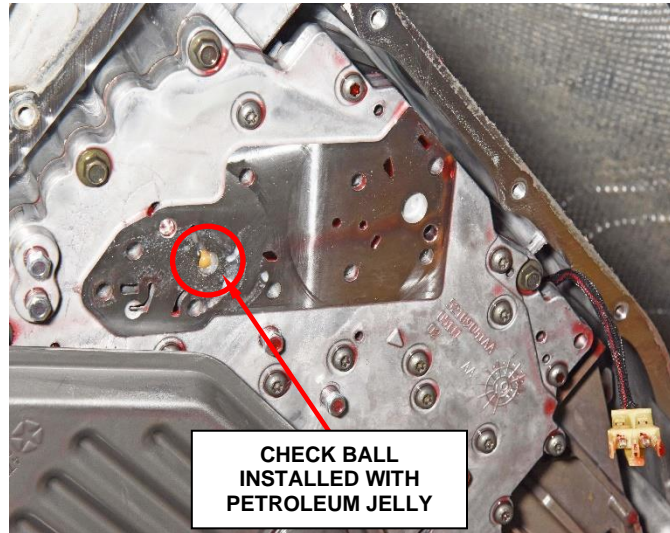

Figure 9 – Check Ball Installed
18. Pack the main valve body check ball hole with just enough petroleum jelly (Vaseline) or equivalent to retain check ball, insert check ball back into the Vaseline packed hole and assure the ball is held in position by the Vaseline (Figure 9).